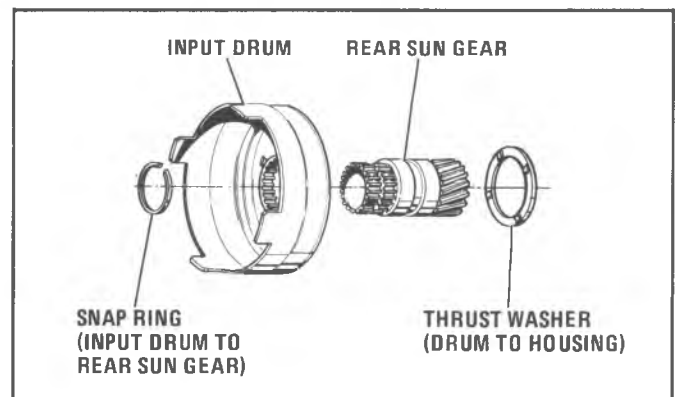

Figure 7A1-96 Rear Sun Gear and Input Drum
2. Install front carrier and thrust bearing assembly. (Figure 7A1-104).
## Front Internal Gear and Thrust Washer (Figure 7A1-103)